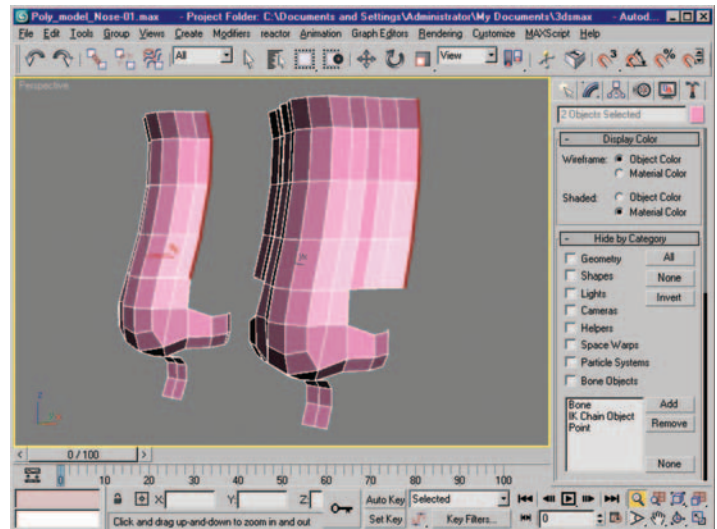

Figure 3.19 Edge selection and new polygons created by shift-drag.
21. Time to add the transition area where the nose meets the cheek. Select the top four edges along the side of your nose model, and shift-drag them to create three lines of new polygons. Why three rows? The nostril area below consists of three polygons, we want to maintain a Quad-based mesh, and this will allow you to bridge to the existing polygons with minimal effort (Figure 3.19).